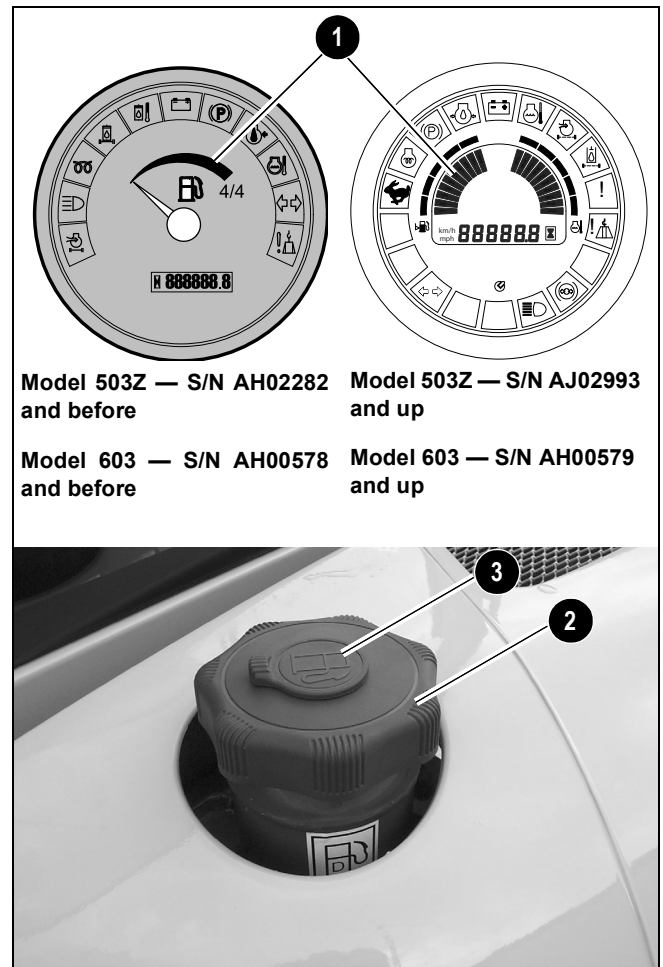

Figure 4-4 Fuel Gauge & Fuel Filler Cap
The fuel level in the tank is indicated by the fuel gauge (1) on the console. See Figure 4-4.
To fill the tank, remove the fuel filler cap (2) located on the left rear of the unit behind the cab by rotating the lock cover (3) and inserting the ignition key into the lock and unlocking the cap. See Figure 4-4. Fill using clean diesel fuel with a cetane rating over 45. Re-install fuel cap.